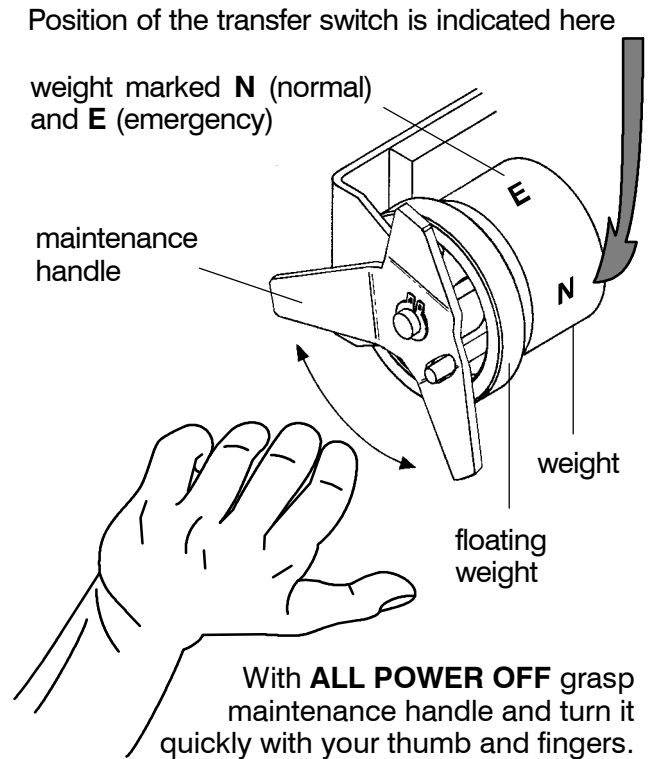

Figure 1–4. Maintenance handle and positions.
1. After deenergizing both power sources, open the enclosure door. Locate and the maintenance handle on the left side of the transfer switch frame. See Figure 1–4.